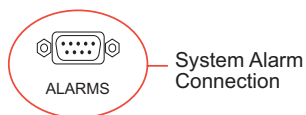

Figure 2-33. Alarms Connection (Rear View)
- 4 On the rear of the **router**, locate the ‘ALARMS’ connection, as shown in Figure 2-33.